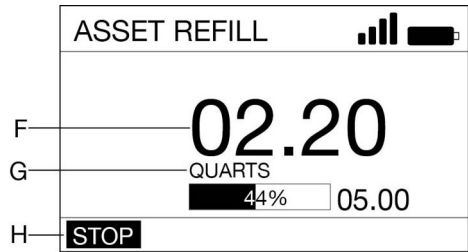

FIG. 30
- Pull the trigger to dispense fluid. The display shows the amount dispensed (F) (FIG. 30).